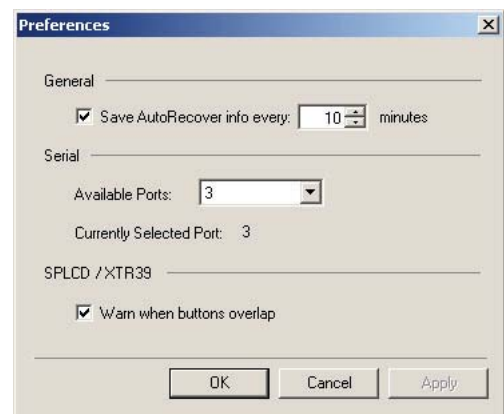

Figure 67: Global Preferences screen
3. In the *File* menu, select *Global Preferences*. The *Preferences* box (*Figure 67*) will be displayed.